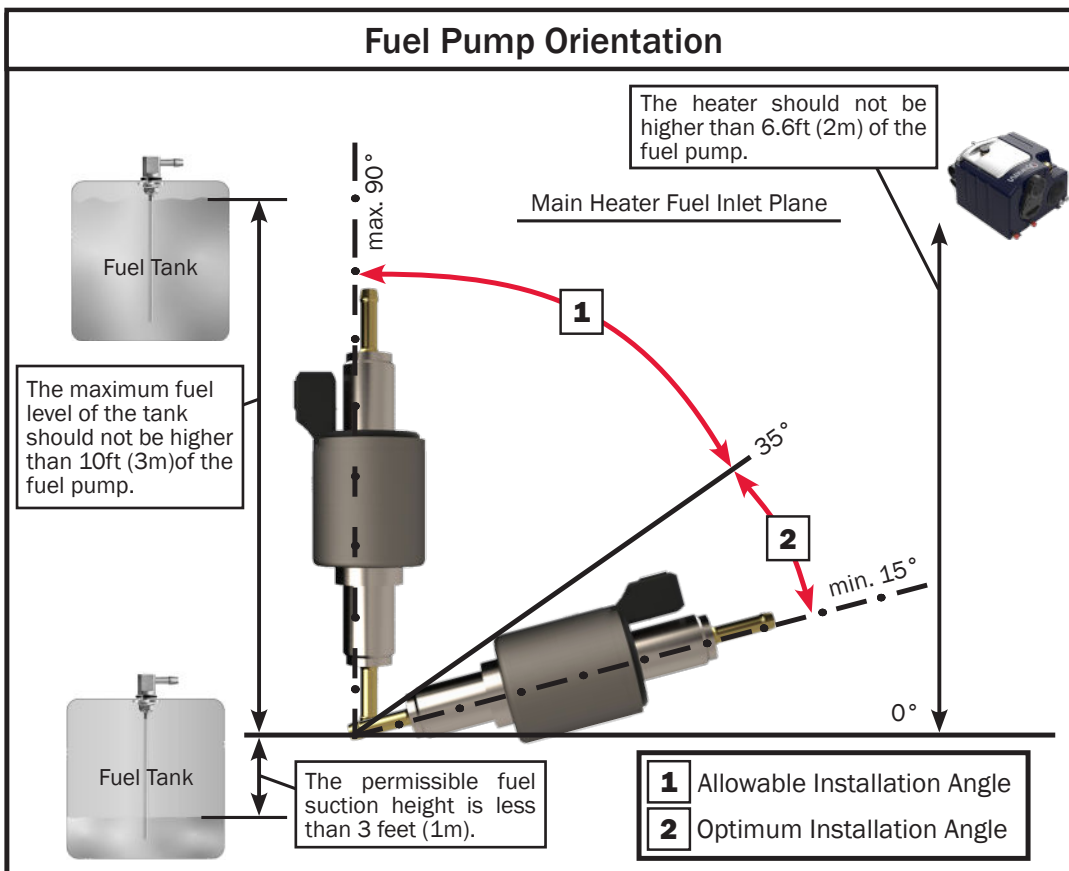

Figure 27
- Fuel Pump is required to be installed vertically. It is not recommended to mount the assembly rotated 180° (see Figure 27).